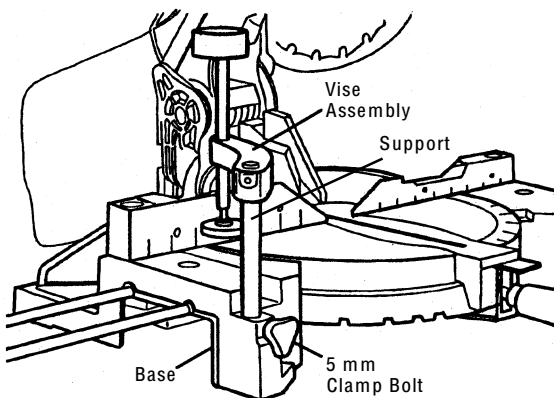

Fig. 18
(1) The vise assembly can be mounted on either the left side base or the right side base, and can be raised or lowered according to the height of the workpiece.
① Insert support of vise assembly into the hole located on either the left side base or the right side base.
② Then tighten 5 mm clamp bolt as shown in Fig. 18.